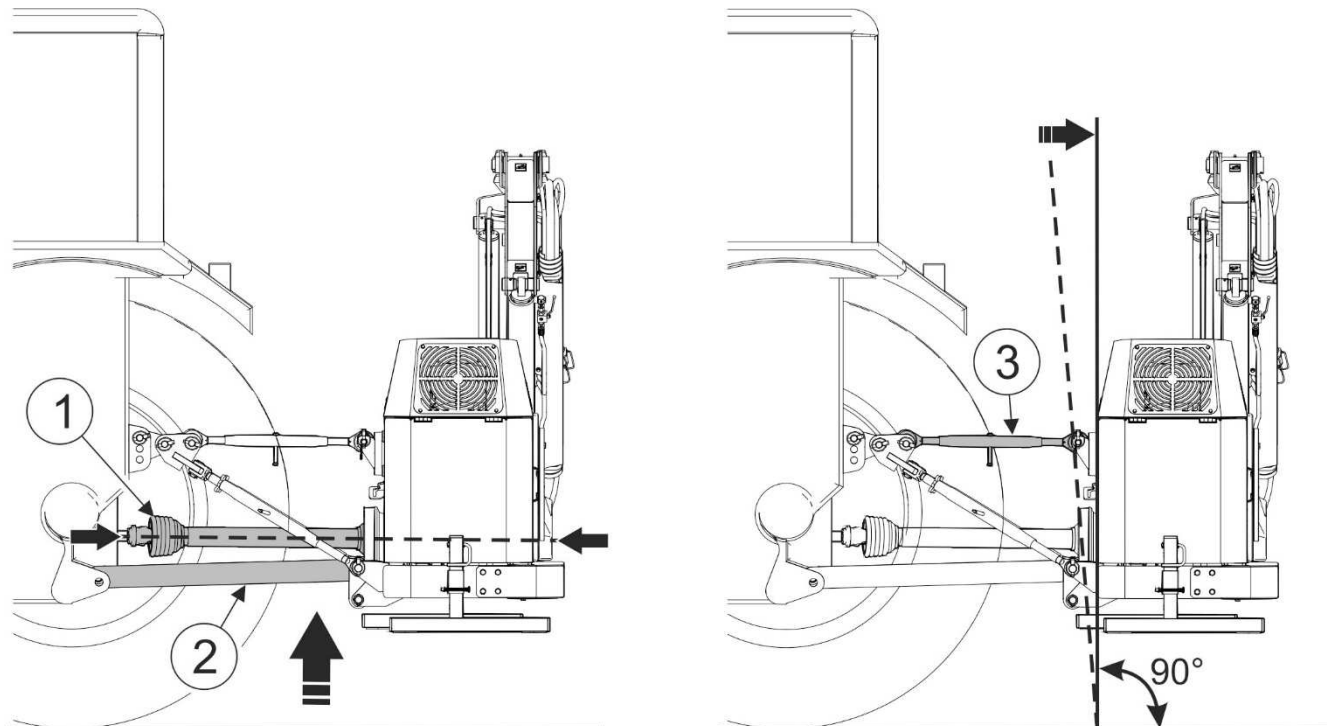

FIGURE 4.2 How to position the multifunction arm in relation to the ground.
(1)- drive shaft; (2)- carrying vehicle's (agricultural tractor's) rear three-point linkage lower linkage arms; (3)- central link of the three-point linkage lock.
- Raise the multifunction arm by means of the carrying vehicle (agricultural tractor) rear three-point linkage lower linkage arm (2) to such a height that the drive shaft (1) which connects the multifunction arm to the carrying vehicle's (agricultural trailer's) PTO shaft were positioned horizontally (level in relation to the ground) (FIGURE 4.2).
- Level the multifunction arm by adjusting the length of the central link (3) (FIGURE 4.2).